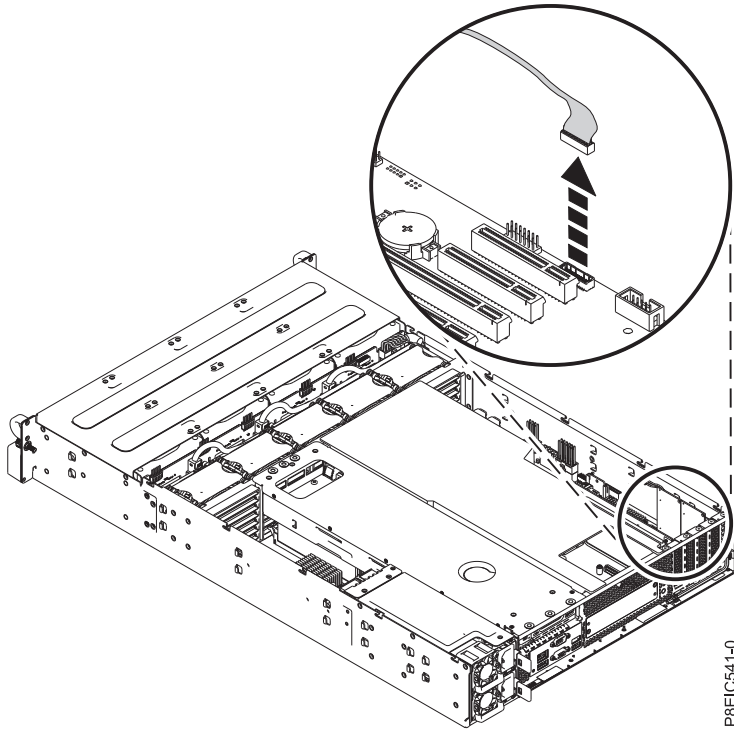

Figure 25. Removing front fan signal cable
5. Remove the front fan signal cable from the system backplane, as shown in Figure 25.